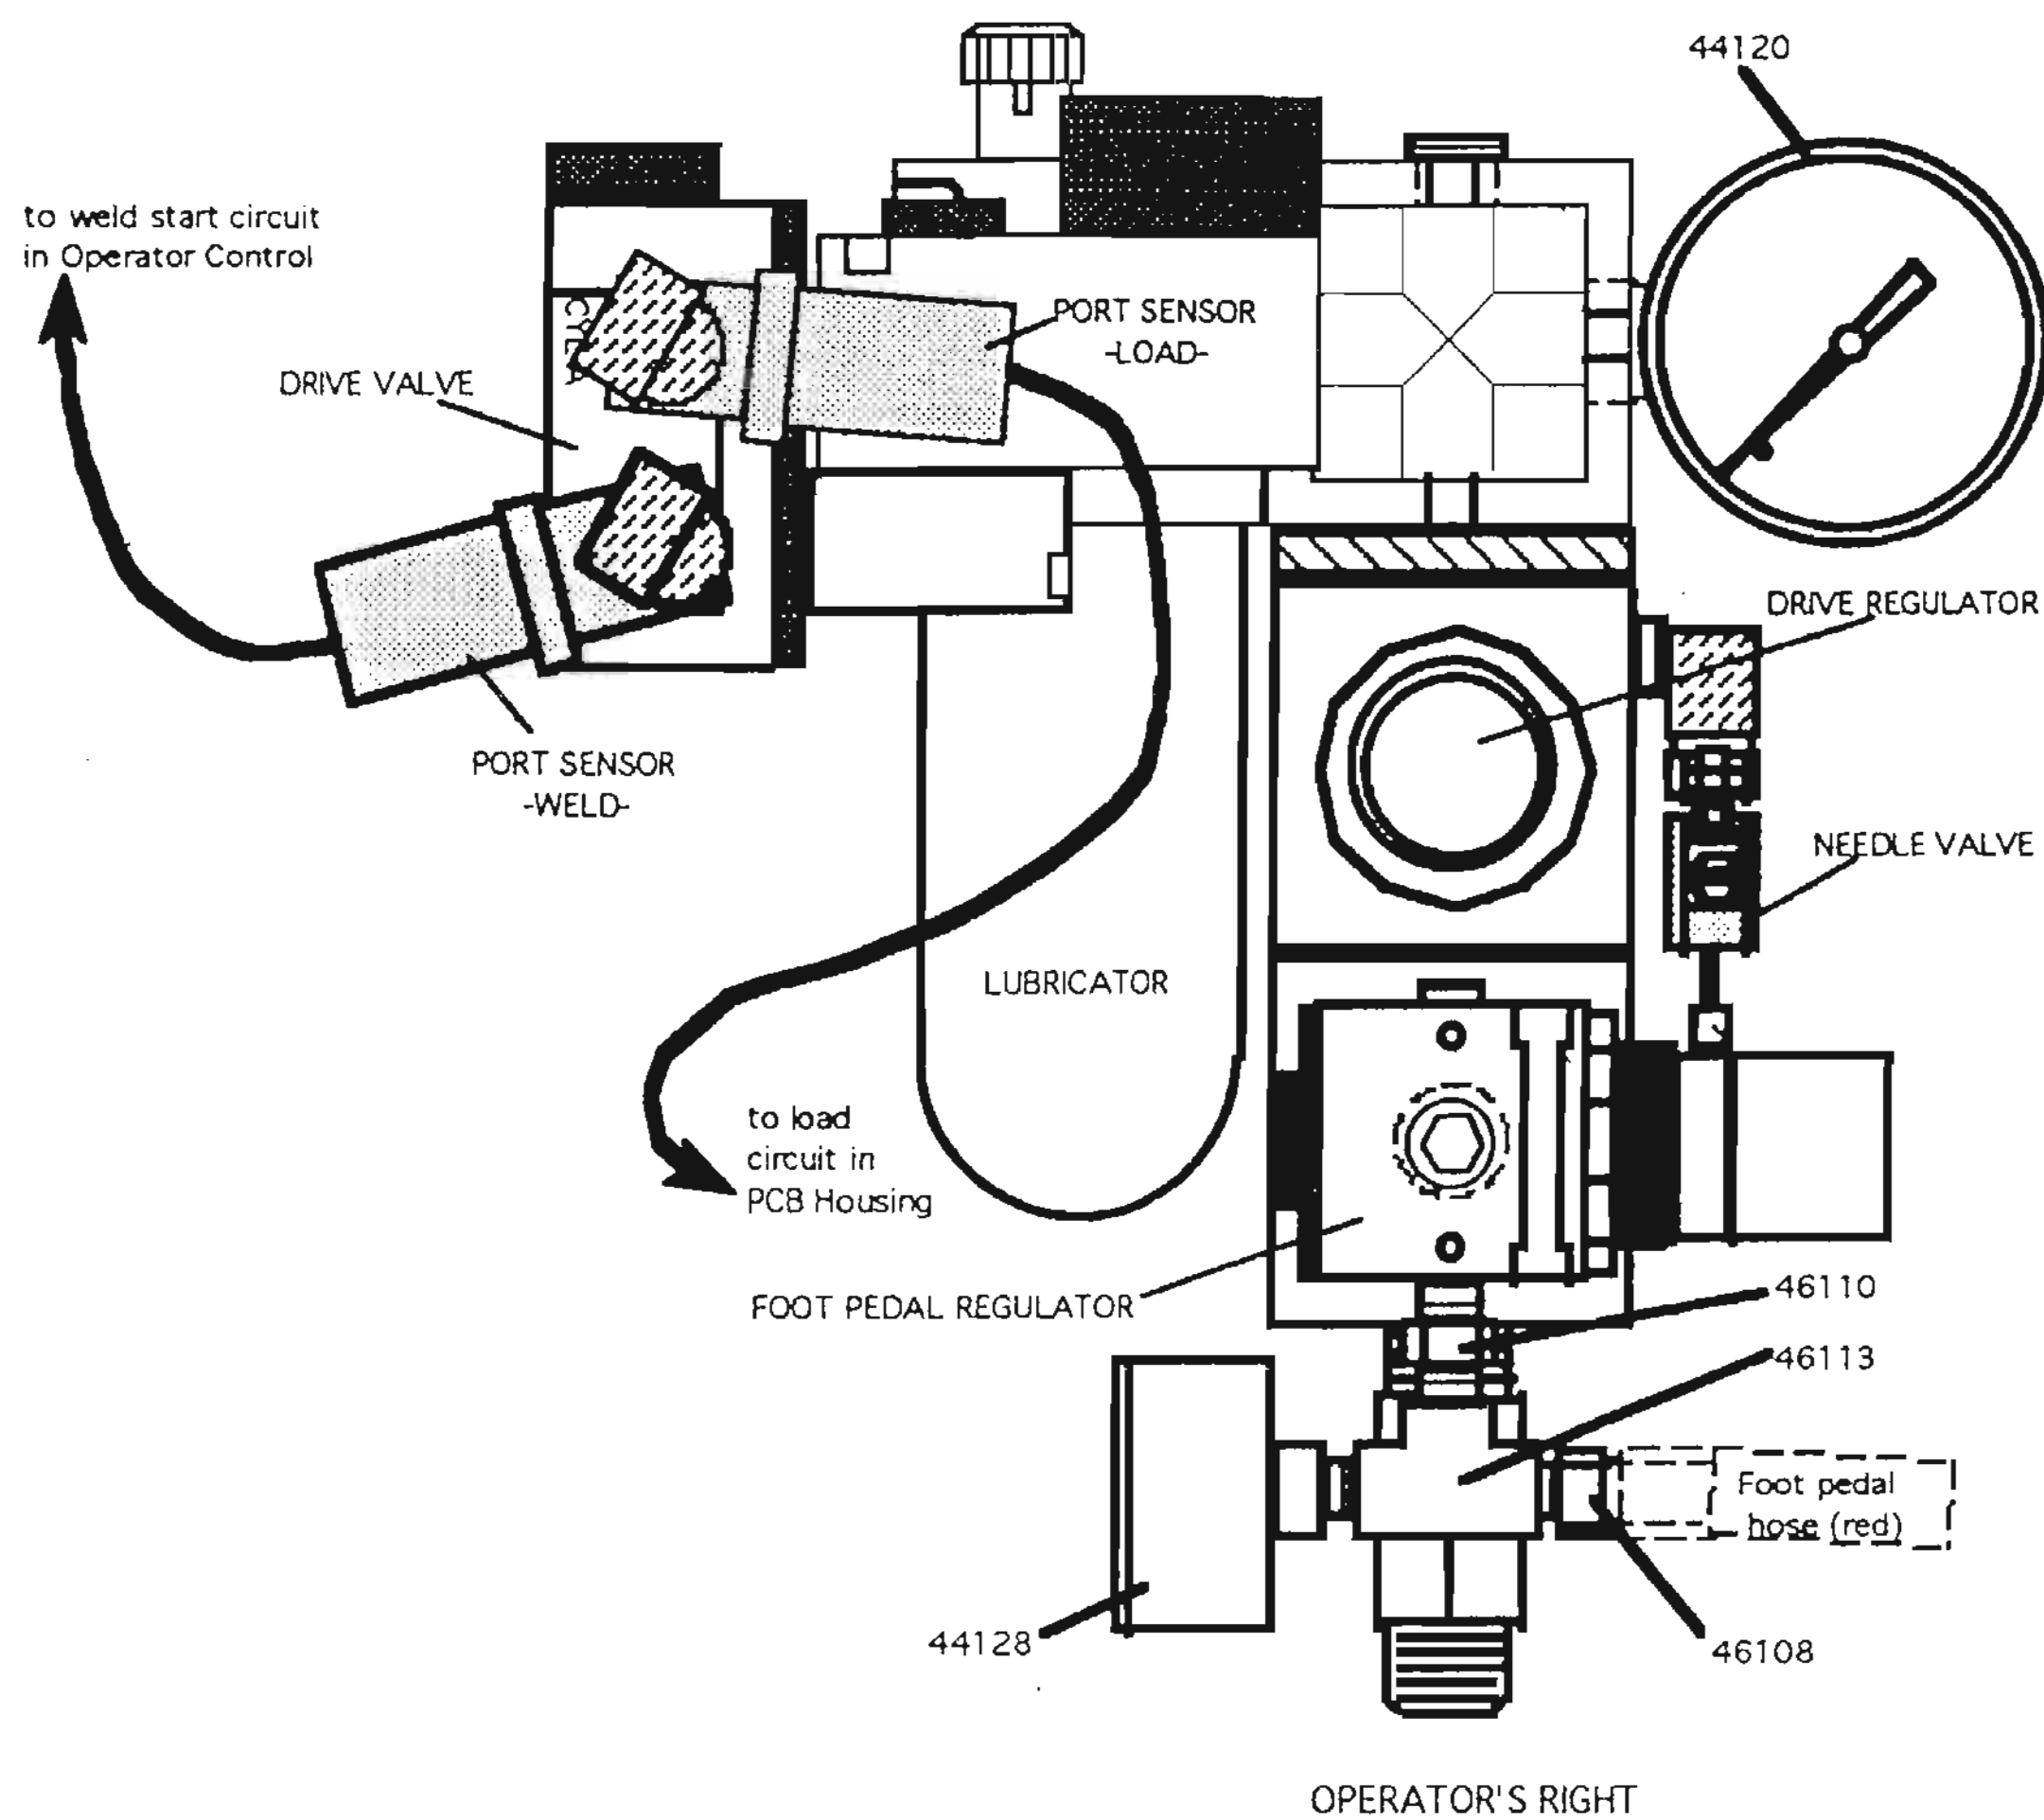

FIG 4-4
1. Two port sensors are used on the Model 7000 welder. They send signals to initiate the weld and load cycles. See Fig 4-4.
3. The weld initiate sensor is installed in the NORMALLY OPEN (B) valve port.
4. The load sensor is installed the NORMALLY CLOSED (A) valve port.
NOTE: REFER TO FIG 4-4